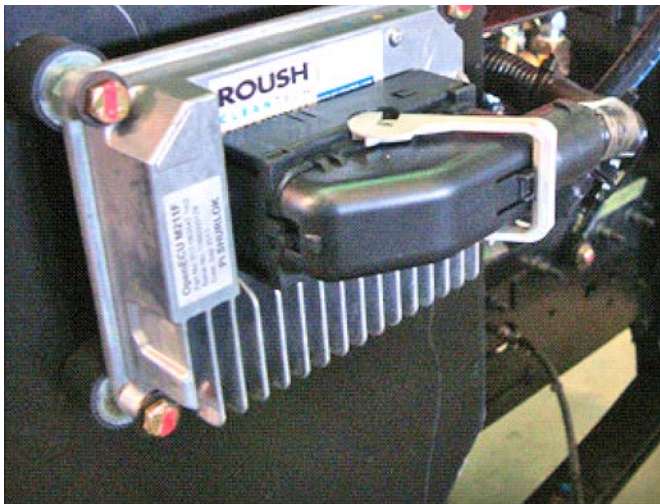

Figure 54 – Gateway Module
3. Push until the connector is fully seated, then close lever until the tab locks it in place as seen in Figure 54.